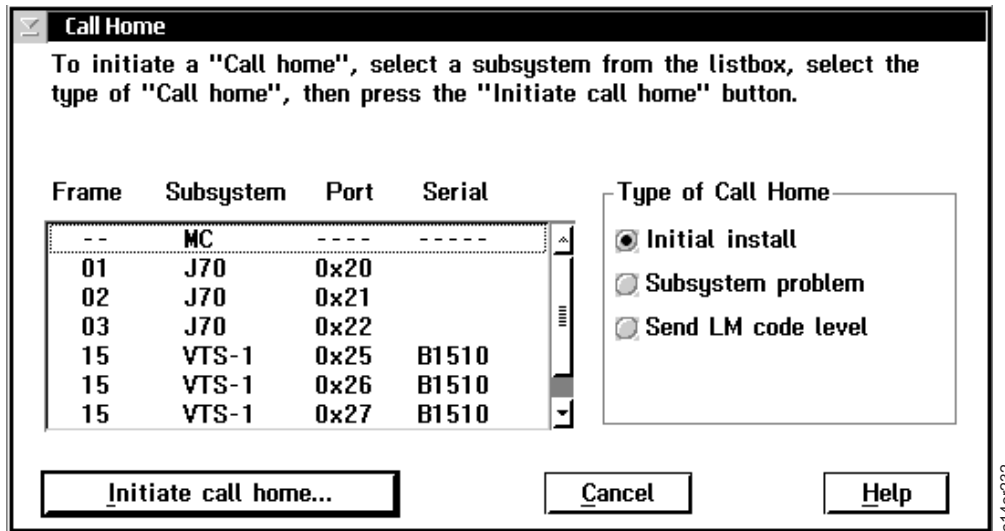

Figure 138. Call Home Dialog Box
- To test call home through the TSSC, use the 3494 ATL or the 3953 menu commands **Commands > Call Home** to view the Call Home Dialog box (see Figure 138 on page 116).